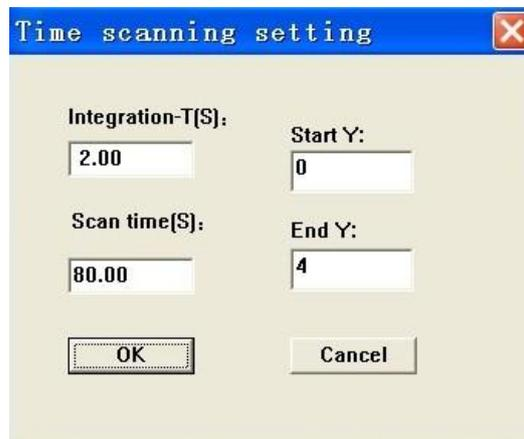

Figure 9-15
5. Press "Settings" to show the settings dialog, as shown in Figure 9-15. The unit of integration time is second; the unit of scanning time (X coordinates) is second; and the unit of absorbance values (Y coordinates) is (Abs).